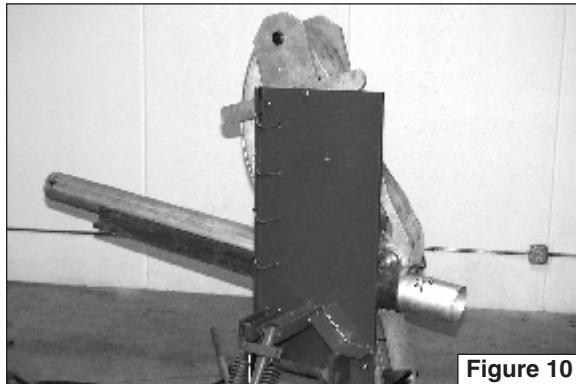

Figure 10
1. To lubricate, apply #20 oil to all pivot points as indicated in Fig. 10 at least once every month.
2. Retorque the four (4) mounting screws, indicated in Fig. 10, monthly, to 50 ft. lbs. Visually inspect all fasteners daily and retorque where necessary.